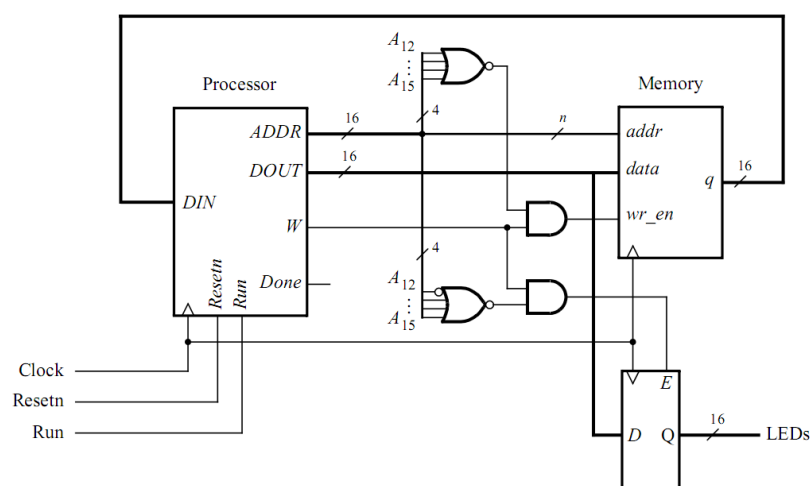

Figure 8. Connecting the enhanced processor to a memory and output register.
Figure 8 illustrates how the enhanced processor is connected to memory and other devices. The memory unit in the figure supports both read and write operations and therefore has both address and data inputs, as well as a write enable input. The memory also has a clock input, because the address, data, and write enable inputs must be loaded into the memory on an active clock edge. This type of memory unit is usually called a synchronous random access memory (synchronous RAM). Figure 8 also includes a 16-bit register that can be used to store data from the processor; this register might be connected to a set of LEDs to allow display of data on the DE2-115 board.
To allow the processor to select either the memory unit or register when performing a write operation, the circuit includes some logic gates that perform address decoding: if the upper address lines are  $A_{15}A_{14}A_{13}A_{12} = 0000$ , then the memory module will be written at the address given on the lower address lines. Figure 8 shows  $n$  lower address lines connected to the memory; for this exercise a memory with 128 words is probably sufficient, which implies that  $n = 7$  and the memory address port is driven by  $A_6 \dots A_0$ . For addresses in which  $A_{15}A_{14}A_{13}A_{12} = 0001$ , the data written by the processor is loaded into the register whose outputs are called LEDs in Figure 8.
2. Write VHDL code for the processor and test your circuit by using functional simulation: apply instructions to the DIN port and observe the internal processor signals as the instructions are executed. Pay careful attention to the timing of signals between your processor and external memory; account for the fact that the memory has registered input ports, as we discussed for Figure 8.
3. Create another Quartus II project that instantiates the processor, memory module, and register shown in Figure 8. Use the Quartus II MegaWizard Plug-In Manager tool to create the ALTSYNCRAM memory module. Follow the instructions provided by the wizard to create a memory that has one 16-bit wide read/write data port and is 128 words deep. Use a MIF file to store instructions in the memory that are to be executed by your processor.
5. Include in your project the necessary pin assignments to implement your circuit on the DE2-115 board. Use switch  $SW_{17}$  to drive the processor's Run input, use  $KEY_0$  for Resetn, and use the board's 50 MHz clock signal as the Clock input. Since the circuit needs to run properly at 50 MHz, make sure that a timing constraint is set in Quartus II to constrain the circuit's clock to this frequency. Read the Report produced by the Quartus II Timing Analyzer to ensure that your circuit operates at this speed; if not, use the Quartus II tools to analyze your circuit and modify your VHDL code to make a more efficient design that meets the 50-MHz speed requirement. Also note that the Run input is asynchronous to the clock signal, so make sure to synchronize this input using flip-flops. Connect the LEDs register in Figure 8 to  $LEDR_{15-0}$  so that you can observe the output produced by the processor.
1. Create a Quartus II project for your circuit and write the VHDL code that includes the circuit from Figure 8 in addition to your seg7\_scroll module.